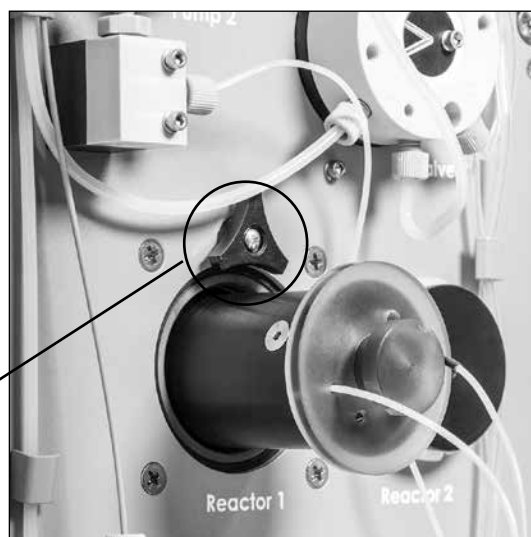

Figure 5-4
Please refer to Figure 5-4 for removal of the Reactor Cartridge.
3. Loosen the retaining screw at the top of the reactor using a phillips screwdriver. (see Figure 5-4).